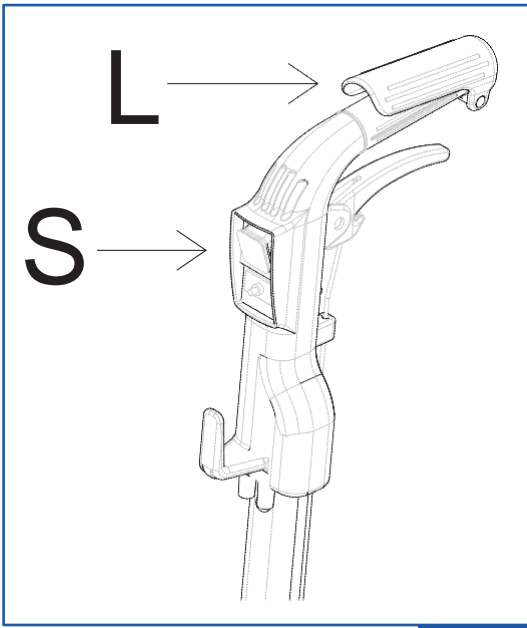

Figure 1.8
Machine start-up takes place taking hold of the handle and keeping pressed the yellow safety lever (L) (Figure 1.8).
DO NOT attempt to re-start the machine if the battery is discharged. Immediately switch off the pre-activation (S) switch (Fig. 1.8).